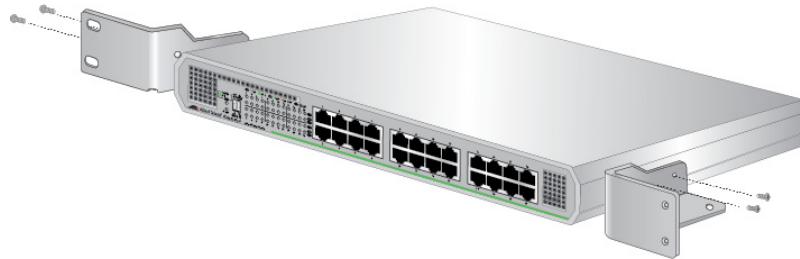

Figure 23. Attaching the Brackets to the AT-GS910/24 Switch
4. Orient the brackets against the sides of the switch and secure them to the switch with the four screws as shown in Figure 23.